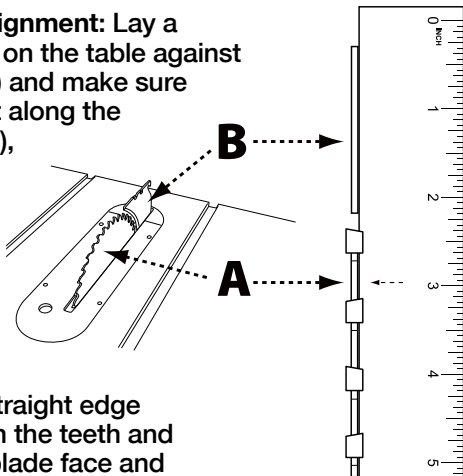

FIGURE 24a
1. **Horizontal Alignment:** Lay a straight edge on the table against blade face (A) and make sure it extends out along the riving knife (B), as shown in Figure 24a. The riving knife should just touch the straight edge. Be sure the straight edge goes between the teeth and rests on the blade face and the riving knife for proper alignment.